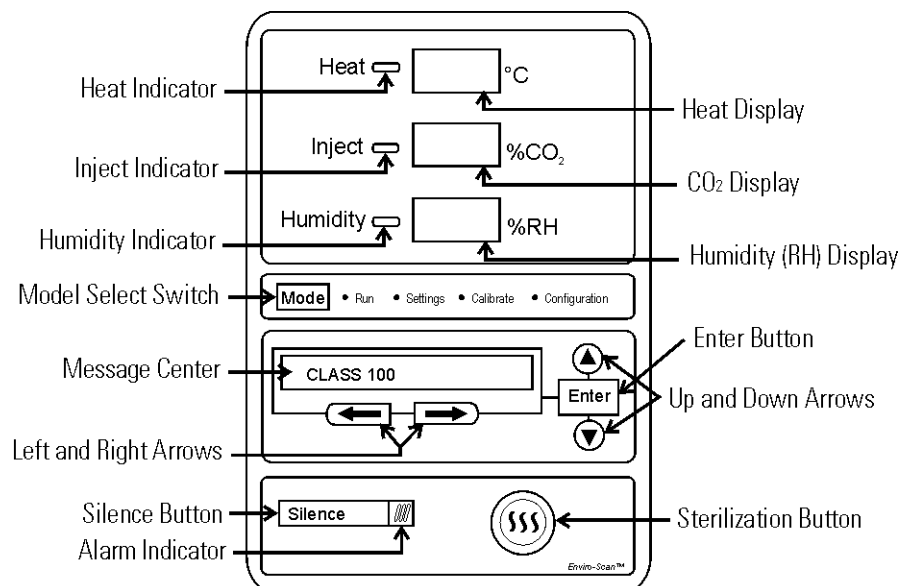

Figure 1-3. Control Panel Components
- Control Panel - Keypad, Displays & Indicators (Figure 1-3)